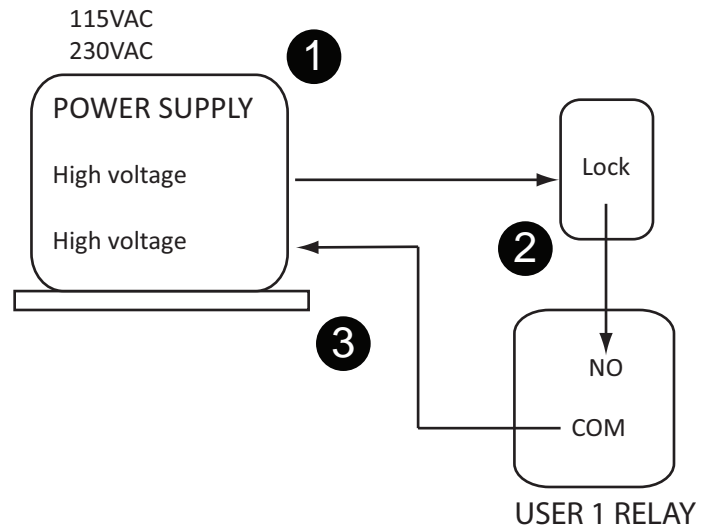

Figure 68. Lock Installation- High Voltage
4. Set the User Relay function in the Installer Menu to RL1 - 6. See Figure 68.